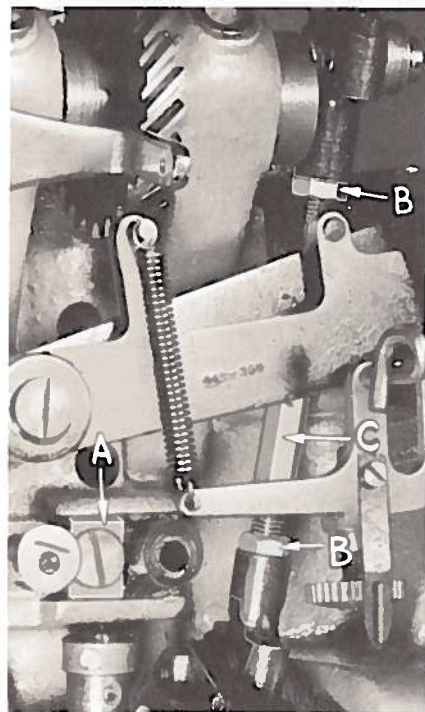

Fig. 5
should be .012 inch clearance between left side of needle blade and presser foot needle guide slot. Lightly tap the needle vibrating crank adjusting lug (A, Fig. 5) to right or left to secure this adjustment. In the photograph the needle vibrating crank has been removed for clarity.
Turn pulley in operating direction until point of looper is directly over center of needle as needle is returning on its left stroke. The back of needle eye should now be $\frac{1}{16}$ inch from looper point. If adjustment is required at this point, loosen the two locknuts (B, Fig. 5) on ball joint connecting rod (C) and turn rod to secure this setting.